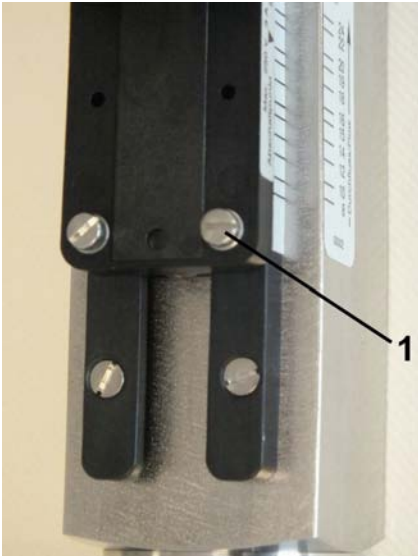

Fig. 30: Loosen set screws
1. ➤ Loosen the set screws of the switch contact (Fig. 30/1) using a flat-bladed screwdriver.
3. ➤ Re-tighten the set screws of the switch contact (1) using a flat-bladed screwdriver. When doing so, observe the correct tightening torque of the screws.